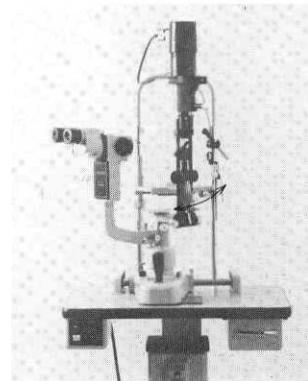

Fig. 26
- Loosen the slit lamp arm fixing knob⑯, tighten the microscope arm fixing knob⑯ and rotate the slit lamp arm only around the upright post (see Fig. 26)